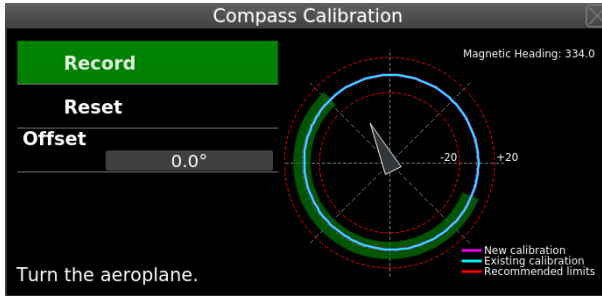

Figure 3: Compass calibration dialog - first step is in the progress.
- In the second step, this remaining offset error is entered manually. In order to obtain the offset error, aircraft shall be directed into a couple of reference magnetic headings. Write down the differences between the reference magnetic heading and the heading shown on the dialogue on Figure 3. Average value of the differences, gives the final offset, which should be entered into the device. Note that the second step can be done much later (a few days or weeks) than the first step.
Figure 3 shows compass calibration dialog.
between known reference magnetic headings and by the headings shown on the dialogue on Figure 3. This error is more or less constant regardless to the direction.